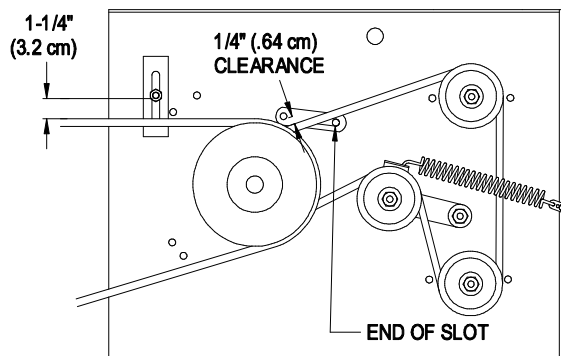

FIGURE 15
- Check belt guides under the engine deck for proper adjustment (See Figures 15 and 16). Adjust as necessary.